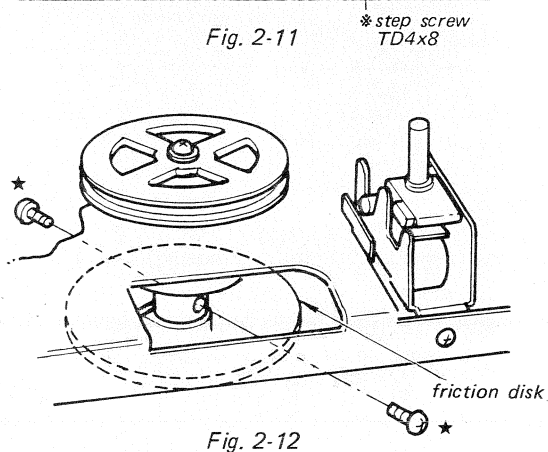

Fig. 2-12
3. Loosen the two screws marked ★ in Fig. 2-12 which fix the friction disk.